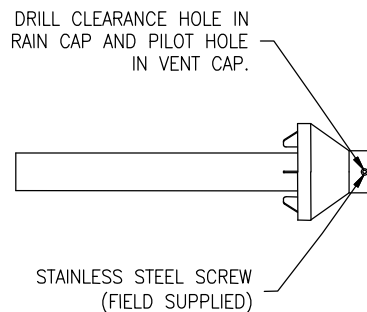

Figure 21. Rain Cap to Small Vent Pipe Ass'y
- b. Cement rain cap to smaller diameter pipe. (See Figure 21).
- b. Cement rain cap to smaller diameter kit pipe. (See Figure 21).